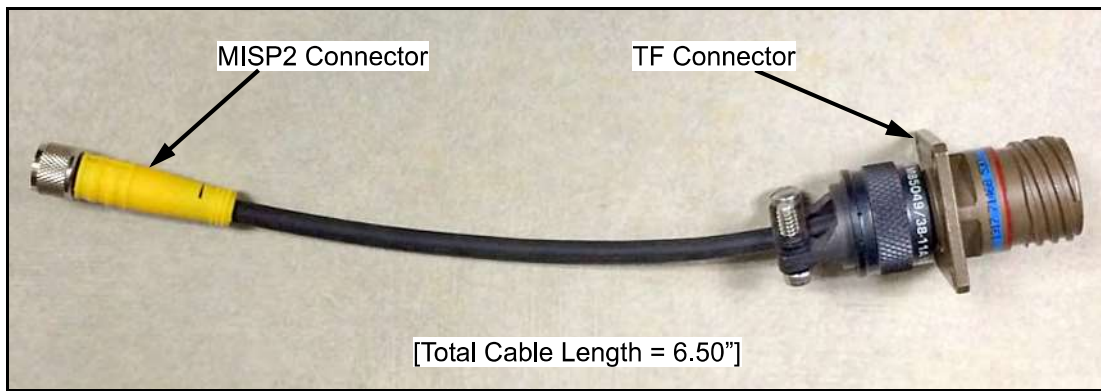

Figure 5: TF-MISP2 Converter Cable
If an existing moisture measurement system uses a **TF-Series** moisture probe, the cable for that probe may be adapted for use with an **MISP2** probe. To retrofit the existing system, refer to *Figure 5* below and complete the following steps:
3. Using GE *adapter cable 704-1352*, shown in *Figure 5* above, connect one end of the cable to the **MISP2** probe and connect the other end to the existing **TF-Series** cable connector.